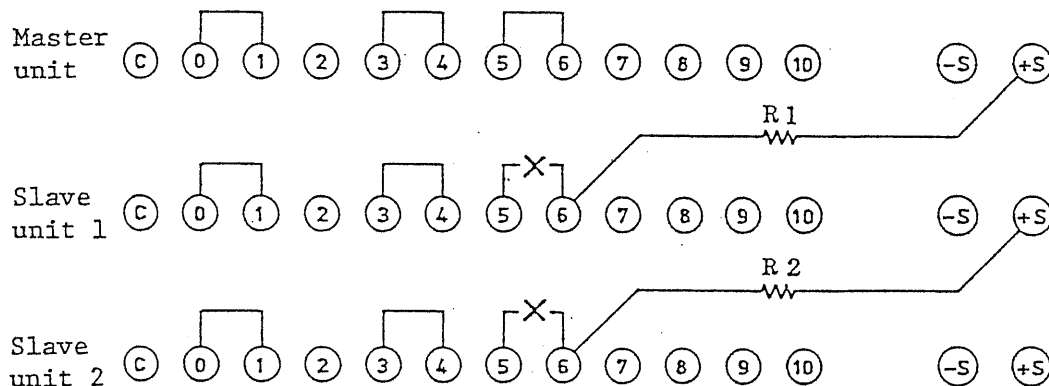

Figure 4-12. Rear terminal connections
2. Disconnect the jumper from between terminals ⑤ and ⑥ of each slave unit.
3. Connect external resistors as shown in Figure 4-12.